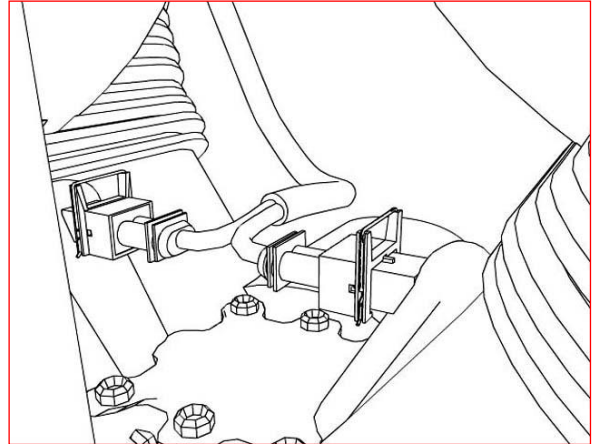

Figure 7
7. **View from left, stock. (see figure 7)**